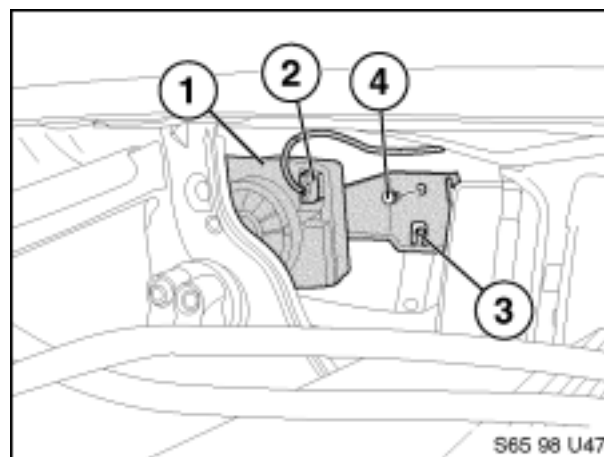

Figure 7
- 1.13 See Figure 7. Locate (unwrap from wire harness) the 4-position alarm siren connector (2) and connect to alarm siren (1).
- 1.14 See Figure 7. Position alarm siren/mounting bracket assembly into mounting position utilizing the positioning tab (3) and secure alarm siren assembly in place with M6 x 16mm bolt w/captive flat washer (4).